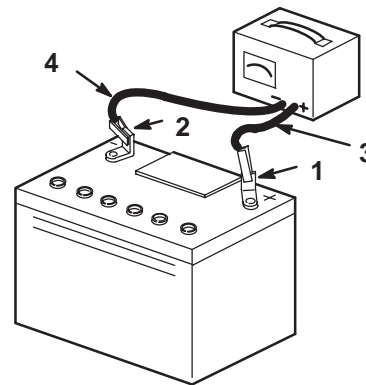

Figure 2
6. Charge the battery for 10 to 15 minutes at 25 to 30 amps or 30 minutes at 4–6 amps (Fig. 2). Do not overcharge the battery.
7. When the battery is fully charged, unplug the charger from the electrical outlet, then disconnect the charger leads from the battery posts (Fig. 2).